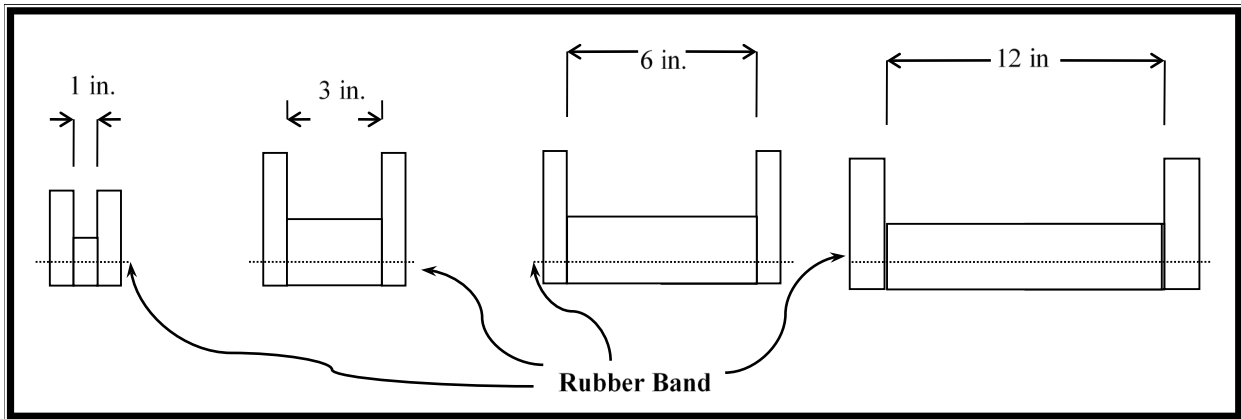
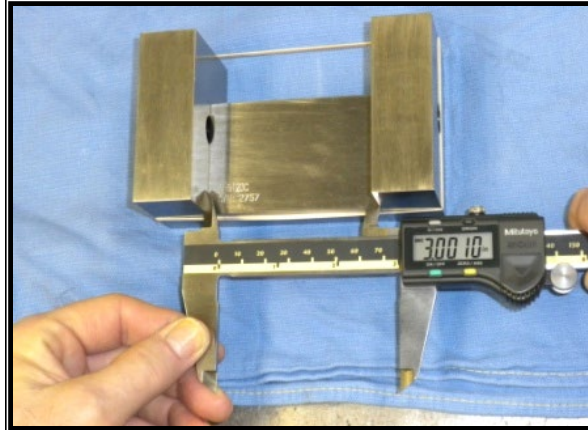

Figure 5
Figure 6
5.5 Arrange the blocks in accordance with (Figure 5) to verify the jaws for internal measurements at 1 in., 3 in., 6 in and 12 in. Wrap a rubber band around the blocks to prevent the end blocks from moving. Measure and record the internal measurement at 1 in., 3 in., 6 in and 12 in. (Figure 6).